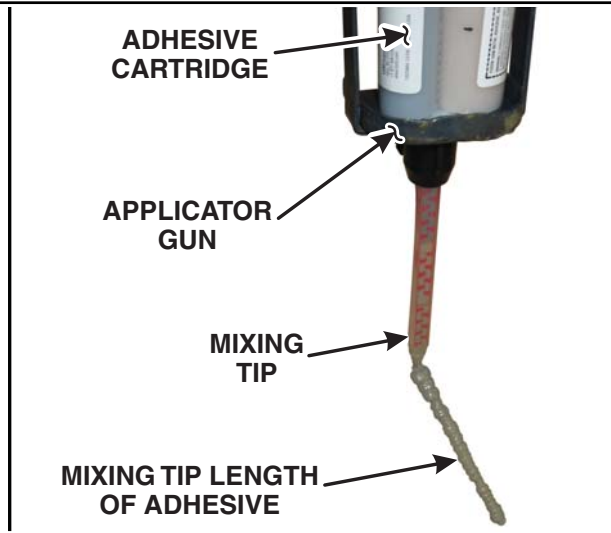

FIGURE 4B
4. Attach the mixing tip and replace the black retaining nut. Dispense a mixing tip length of adhesive to ensure the adhesive is mixing properly (should be grayish in color). See Figure 4B.